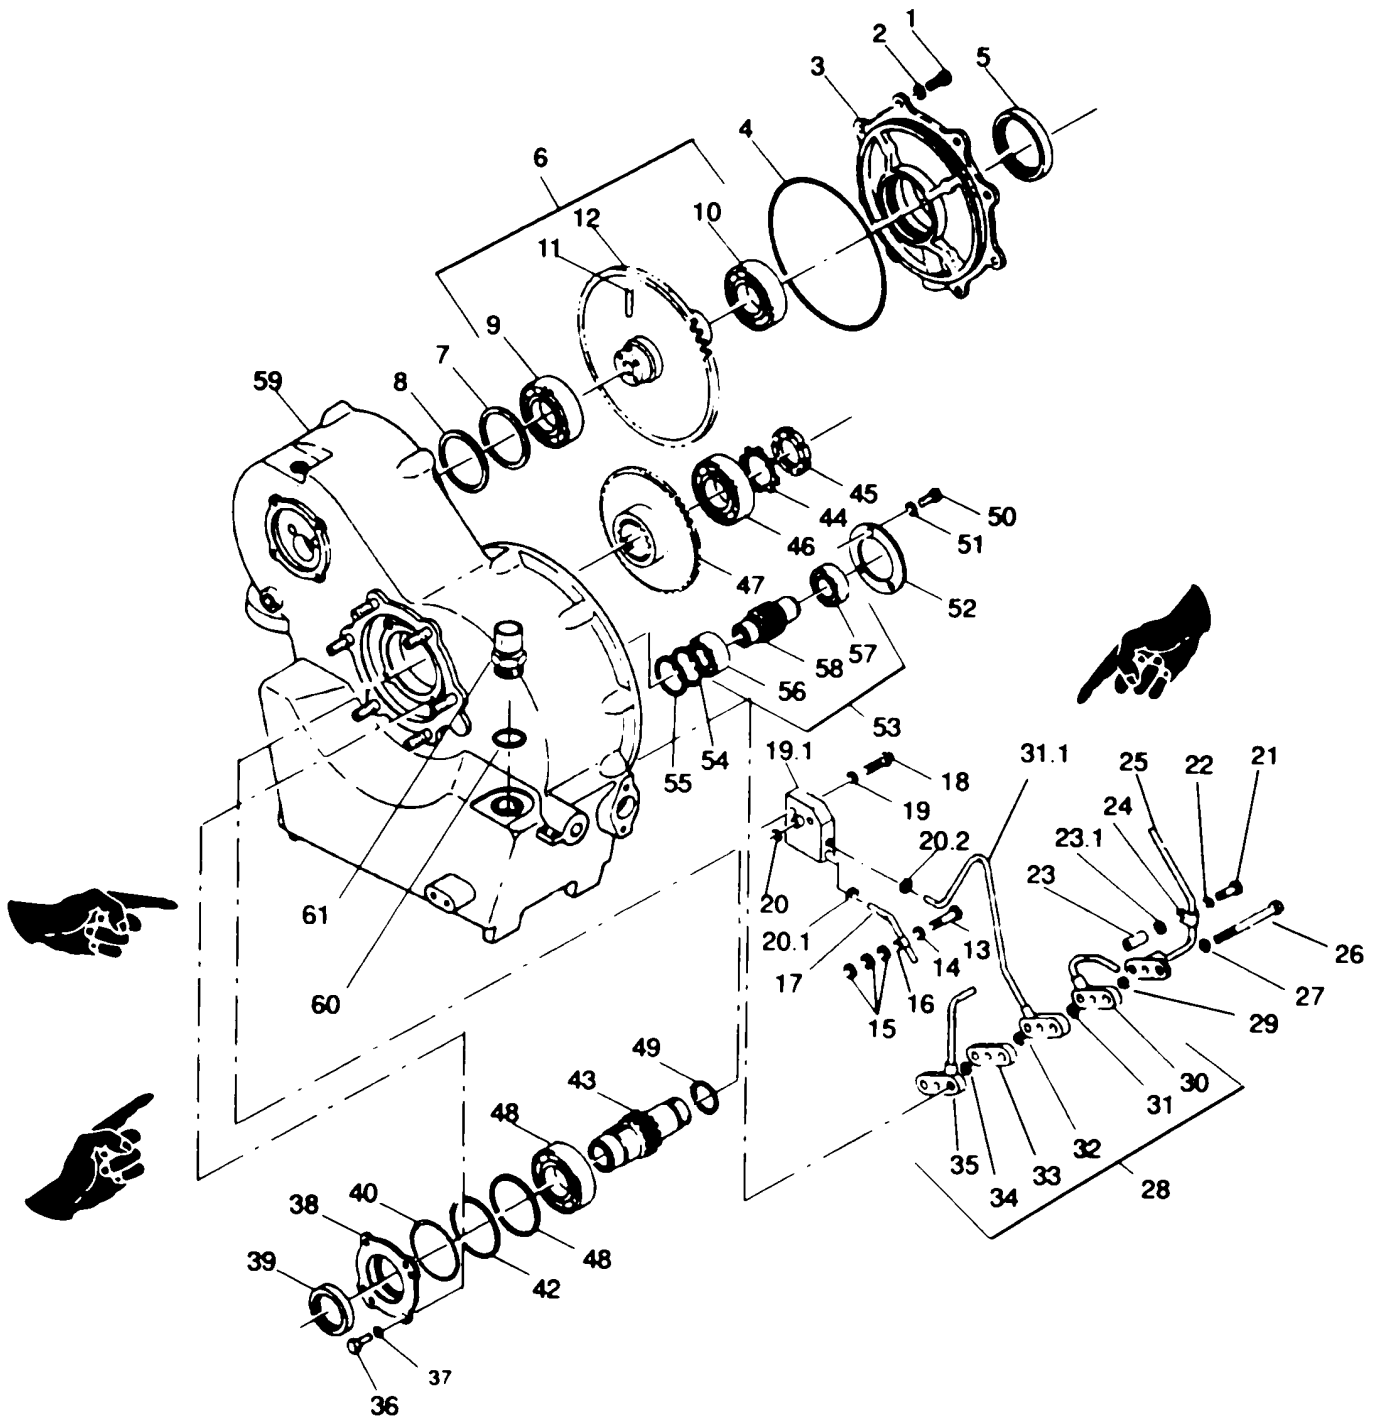

Figure 8-20. Gearbox Disassembly (Sheet 1 of 2)
(4) Remove retaining ring (5), key washer (6), preformed packing (7), oil pressure relief valve (8), and preformed packing (9). Discard packings.
(5) Remove all external oil tubes, plugs, and fittings. Discard preformed packings.
(6) Remove all external safety wire.
(7) Remove bolts (1, Figure 8-20), washers (2), and gently pry off starter mounting cover (3). Discard preformed packing (4) Using arbor press, remove seal (5) from starter mounting cover Discard seal.
(8) Remove starter gear assembly (6), spring washer (7), and bearing shim (8). Discard spring washer.
(13) Remove bolt (13, Figure 8-20), washer (14) and washers (15) securing loop clamp (16) and tube assembly (17) to gearbox housing.
(14) Remove bolts (18) and washers (19) that secure tube fitting (19.1) to gearbox Remove and discard preformed packing (20, 20.1, 20.2)
(15) Remove bolt (21), washer (22), sleeve spacer (23), and washer (23.1) securing loop clamp (24) and tube assembly (25)
(16) Remove capscrews (26) and washers (27) securing tube assembly stackup (28). The tube assembly stackup consists of tube assembly (25), preformed packing (29), tube assembly (30), preformed packing (31), tube assembly (31.1), preformed packing (32), plate spacer (33), preformed packing (34), and tube assembly (35). Remove and discard all preformed packings
(17) Remove bolts (36) and washers (37).
(18) Insert bolts (36) In jackscrew holes in seal retainer (38) Turn jackscrews to remove seal retainer.
(19) Using arbor press, remove seal (39). Remove preformed packing (40), shim (41), and spring washer (42). Discard packing and seal.